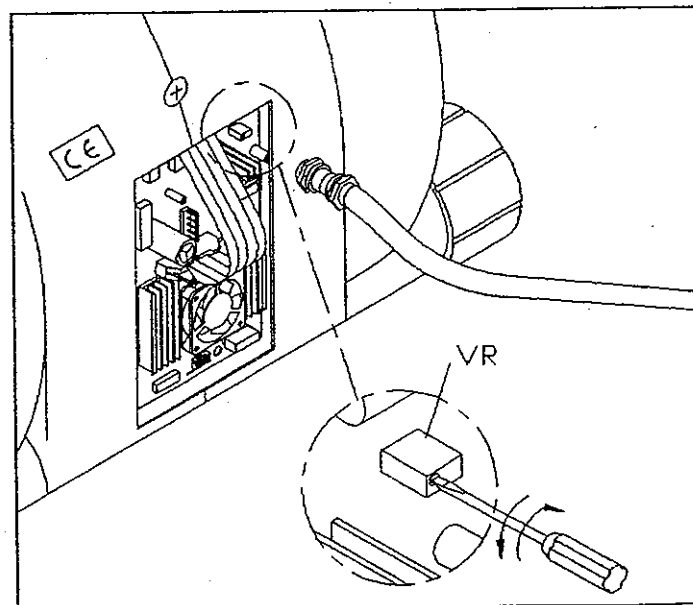

Fig. 2A
a) The VR with the CE mark (see Fig.2A) allows an adjustment of 1~2 turns per time.